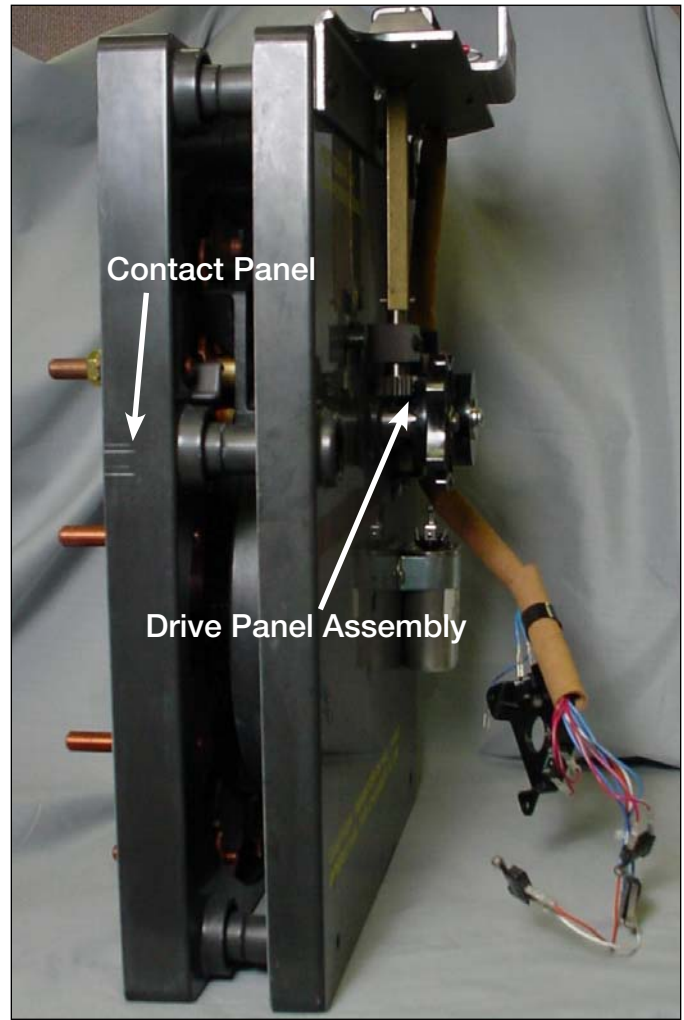

Figure 22.
- Press both of the tap changer assembly sections together and stand up-right. See Figure 22.